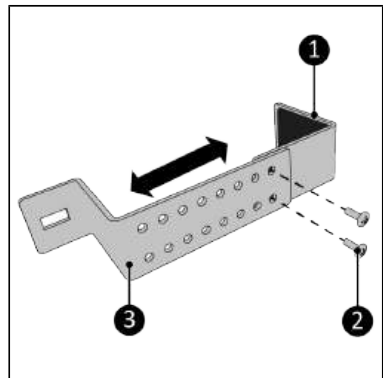

Figure 68.
3. Screw the top part (Figure 68, pos. 1) and the bottom part (Figure 68, pos. 3) together using the two M5 x 10 mm screws (Figure 68, pos. 2). Make sure the width is slightly larger than the width of the window frame.